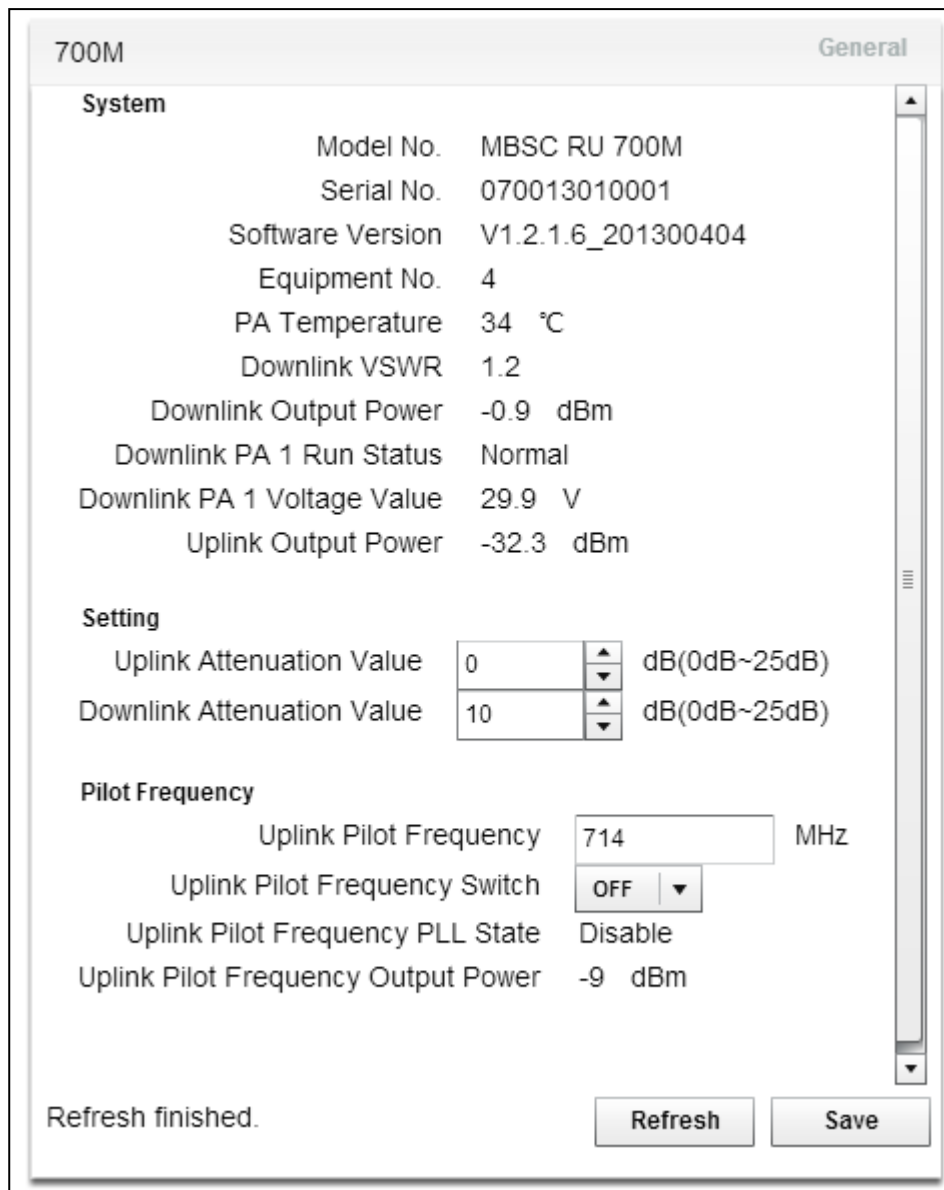

Figure 51 - RU Attenuator
1. Click on the RU in the topology diagram and the component window will pop up on the right as shown in Figure 51 - RU Attenuator.